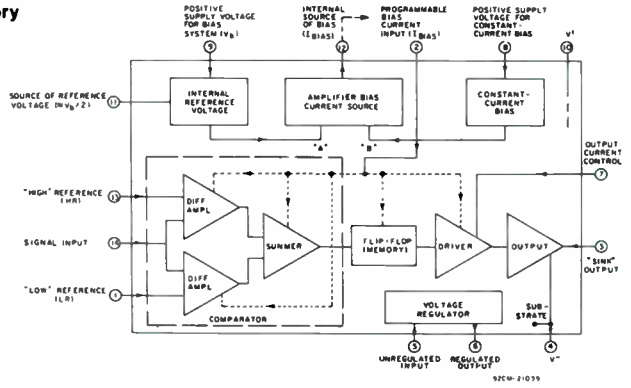

Fig. 1—Block diagram of CA3099E programmable comparator. (See page 3 for general description of circuit operation.)
RCA-CA3099E Programmable Comparator is a monolithic silicon integrated circuit designed to control high-operating-current loads such as thyristors, lamps, relays, etc. The CA3099E can be operated with either a single power supply with maximum operating voltage of 16 volts, or a dual power supply with a maximum operating voltage of  $\pm 8$  volts. It can directly control currents up to 150 mA. It operates with microwatt standby power dissipation when the current to be controlled is less than 30 mA. The CA3099E contains the following six (6) major circuit-function features (Figure 1):